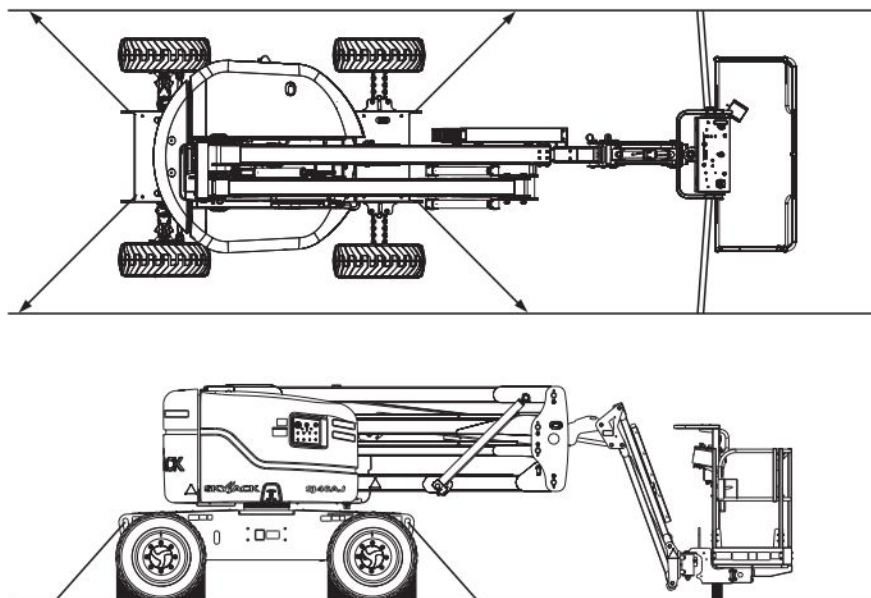

Figure 3-2. Tie-down Points
6. Anchor down aerial platform to transport surface using tie-down points (refer to Figure 3-2).